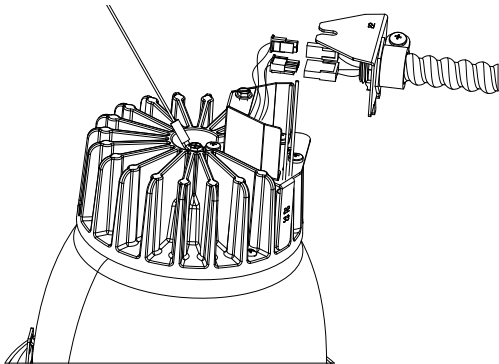

Figure 1
1. Connect LED and power plugs to appropriate sockets. See Figure 1.